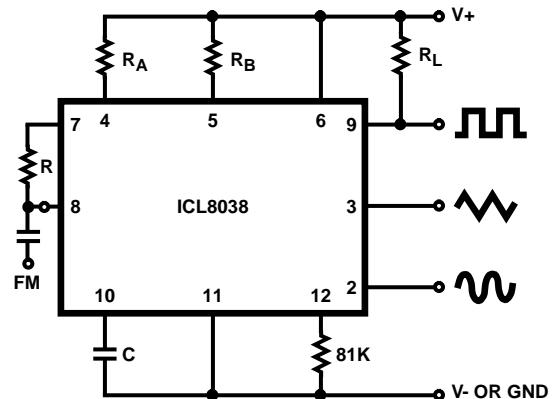

FIGURE 5A. CONNECTIONS FOR FREQUENCY MODULATION
3. $V_{\text{SUPPLY}} = 20\text{V}$; R_A and $R_B = 10\text{k}\Omega$, $f \approx 10\text{kHz}$ nominal; can be extended 1000 to 1. See Figures 5A and 5B.
The frequency of the waveform generator is a direct function of the DC voltage at Terminal 8 (measured from V_+). By altering this voltage, frequency modulation is performed. For small deviations (e.g. ±10%) the modulating signal can be applied directly to pin 8, merely providing DC decoupling with a capacitor as shown in Figure 5A. An external resistor between pins 7 and 8 is not necessary, but it can be used to increase input impedance from about 8kΩ (pins 7 and 8 connected together), to about $(R + 8\text{k}\Omega)$.